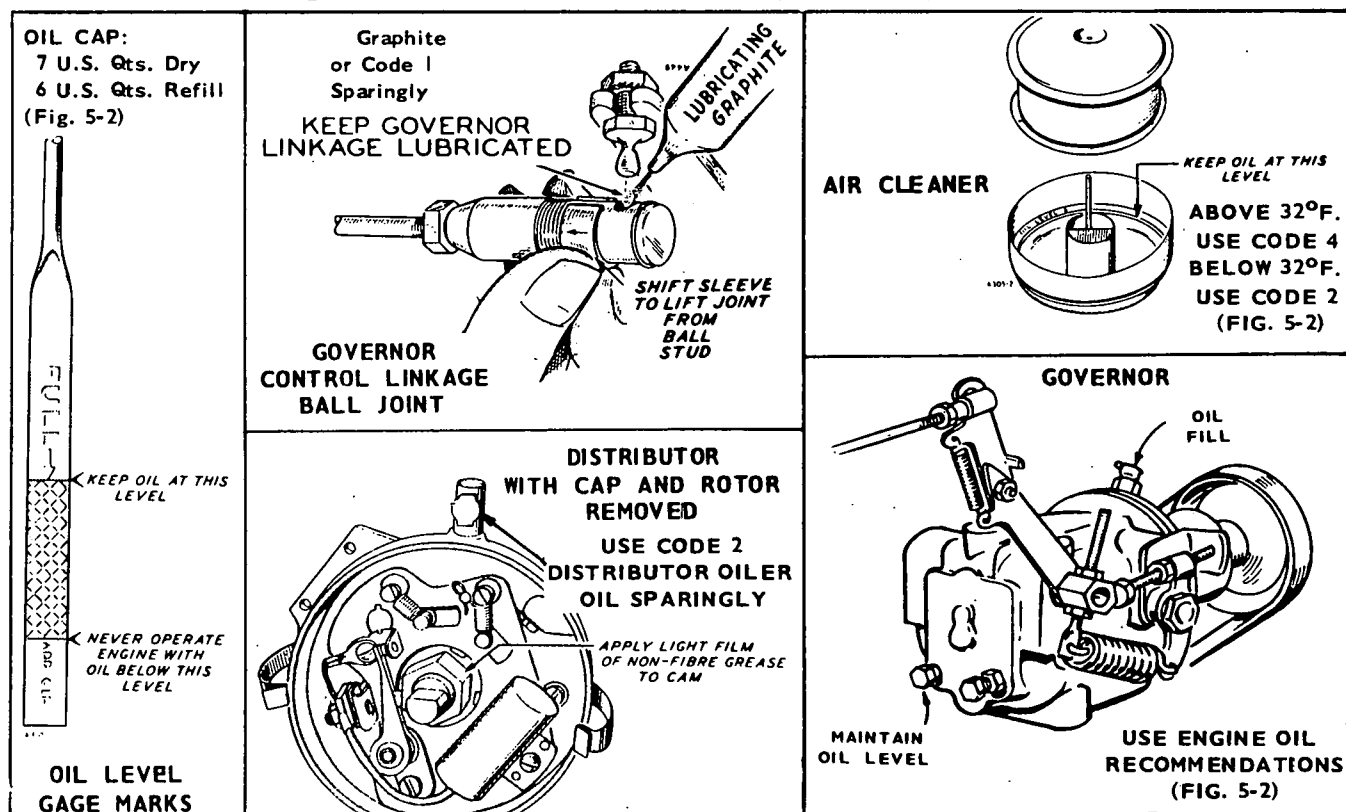

FIG. 5-1. LUBRICATION POINTS
Follow a definite schedule of inspection and servicing. Use the running time meter to keep a record of service operations. Service periods outlined below are for normal service and operating conditions. For continuous heavy duty, extreme temperatures, etc., service more frequently. Refer to Fig. 5-1 for specific lubrication points and Fig. 5-2 for recommended lubricant.
2. To install, place the breaker point assembly in position and install retaining screws. Be sure that the ground wire is under the breaker point screw near the pivot. Attach primary and condenser wires to points. Apply a light film of distributor cam lubricant to the cam — do not use engine oil (Fig. 5-1).